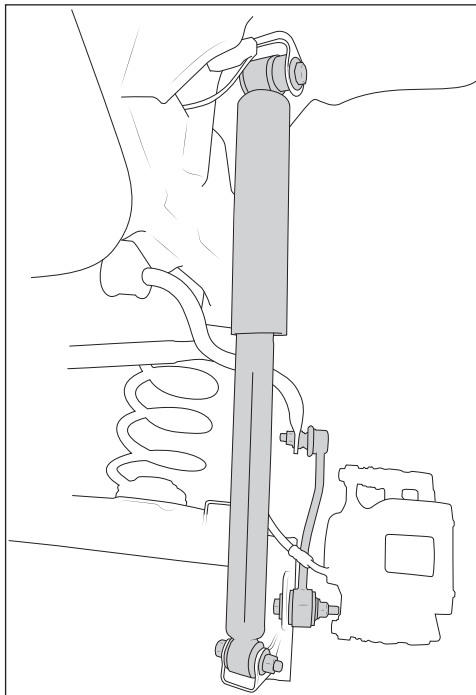

Figure 2
2. Remove the shocks and save hardware (Fig. 2).
- Remove the sway bar end links and save mounting hardware. End links will not be reused. Note the orientation of the end links, the new end links will be installed in the same way (see Fig. 2).
12. Re-install lower shock nut and bolt and tighten\* (Fig 10). Install AEV sway bar end links (the longer of the 2 versions supplied in the kit) using factory hardware and tighten\* (see Fig 2).